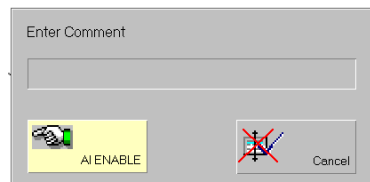

Figure 23: Pop-up Enable/Unforce
- Un pop-up d'ouvre (Figure 23)